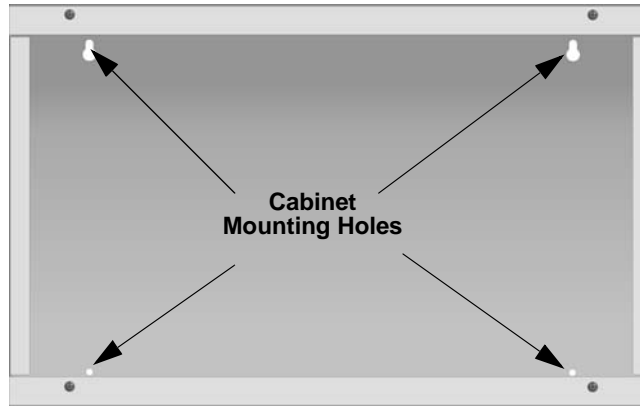

Figure 4-5 RBB or AB-55 Cabinet Mounting Holes
1. Mount the accessory cabinet. See Figure 4-5 for the four cabinet mounting holes.